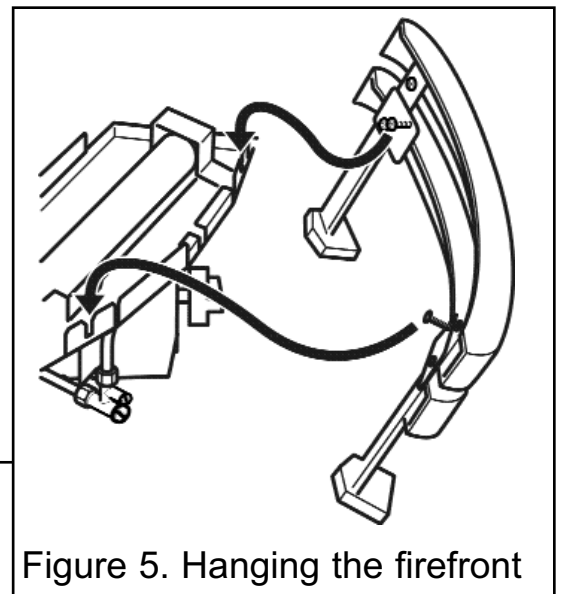

Figure 5. Hanging the firefront
- To fit the firefront, locate the firefront as in figure 5. The hooks should fit into the slots on the burner tray.